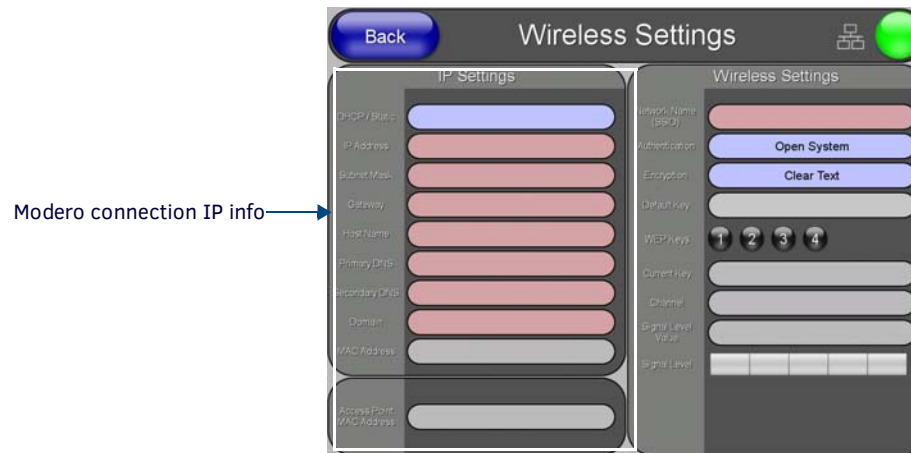

FIG. 76 Wireless Settings page (IP Settings section)
3. Press the **Wireless Settings** button (located on the lower-left) to open the Wireless Settings page. Wireless communication is set within the IP Settings section of this page (FIG. 76).